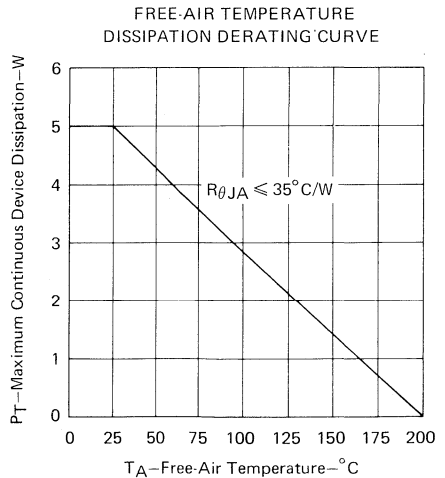

FIGURE 10
4. Derate linearly to 200°C free-air temperature at the rate of 28.6 mW/°C or refer to Dissipation Derating Curve, Figure 10.